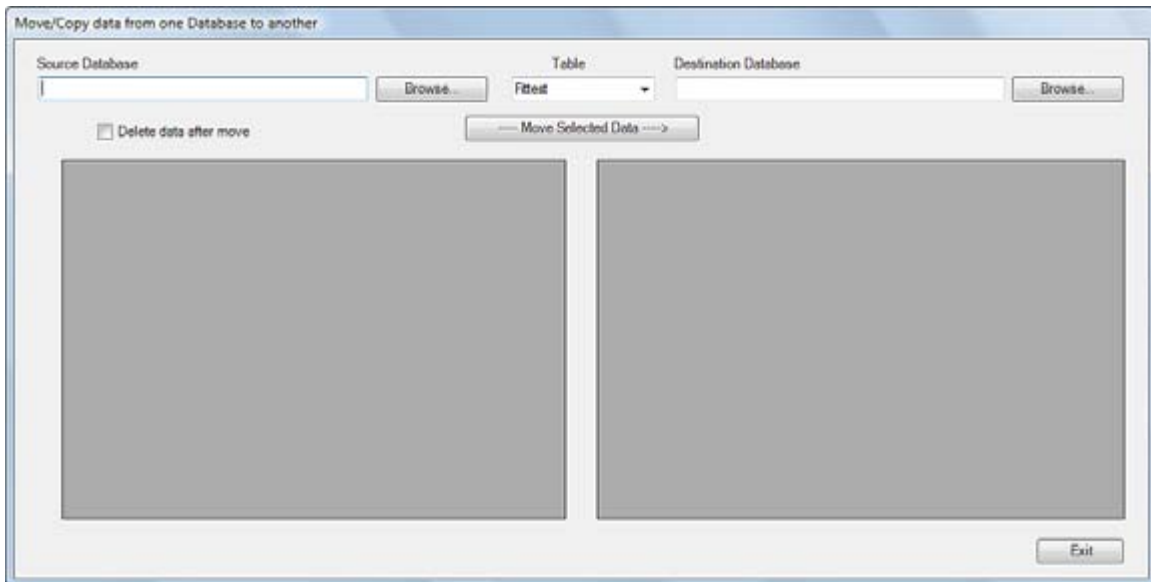

Figure 33. Move/Copy Data from one Database to Another Dialog
1. Select **Database | Utilities | Move/Copy Data**. The move/copy dialog appears (Figure 33).